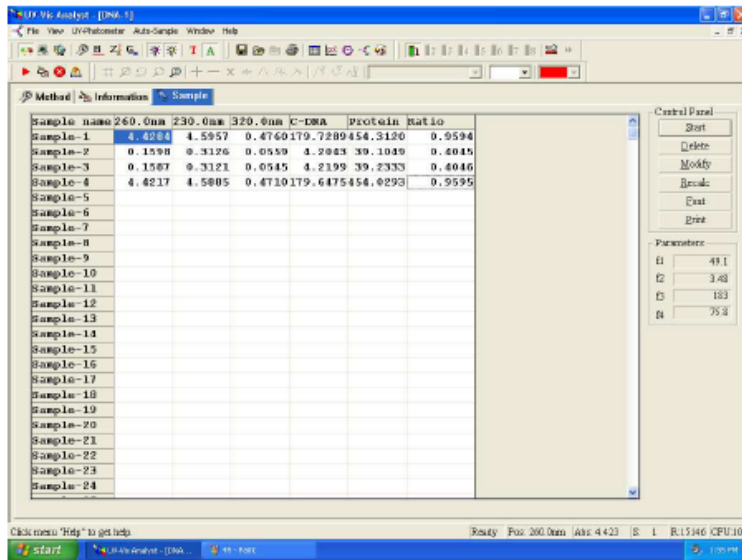

Fig. 4-47
14. Repeat steps 5-6 to test all samples (Fig 4-47)